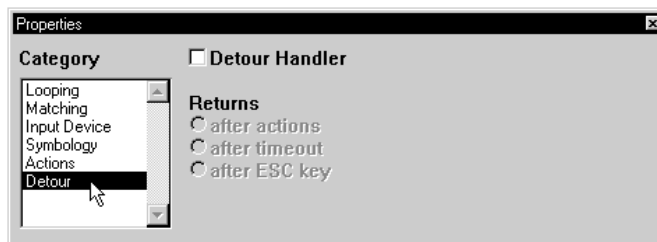

Figure 4-43 Properties Window - Detour Category
- Click **Detour** from the **Category** list to select the Detour category (Figure 4-43).